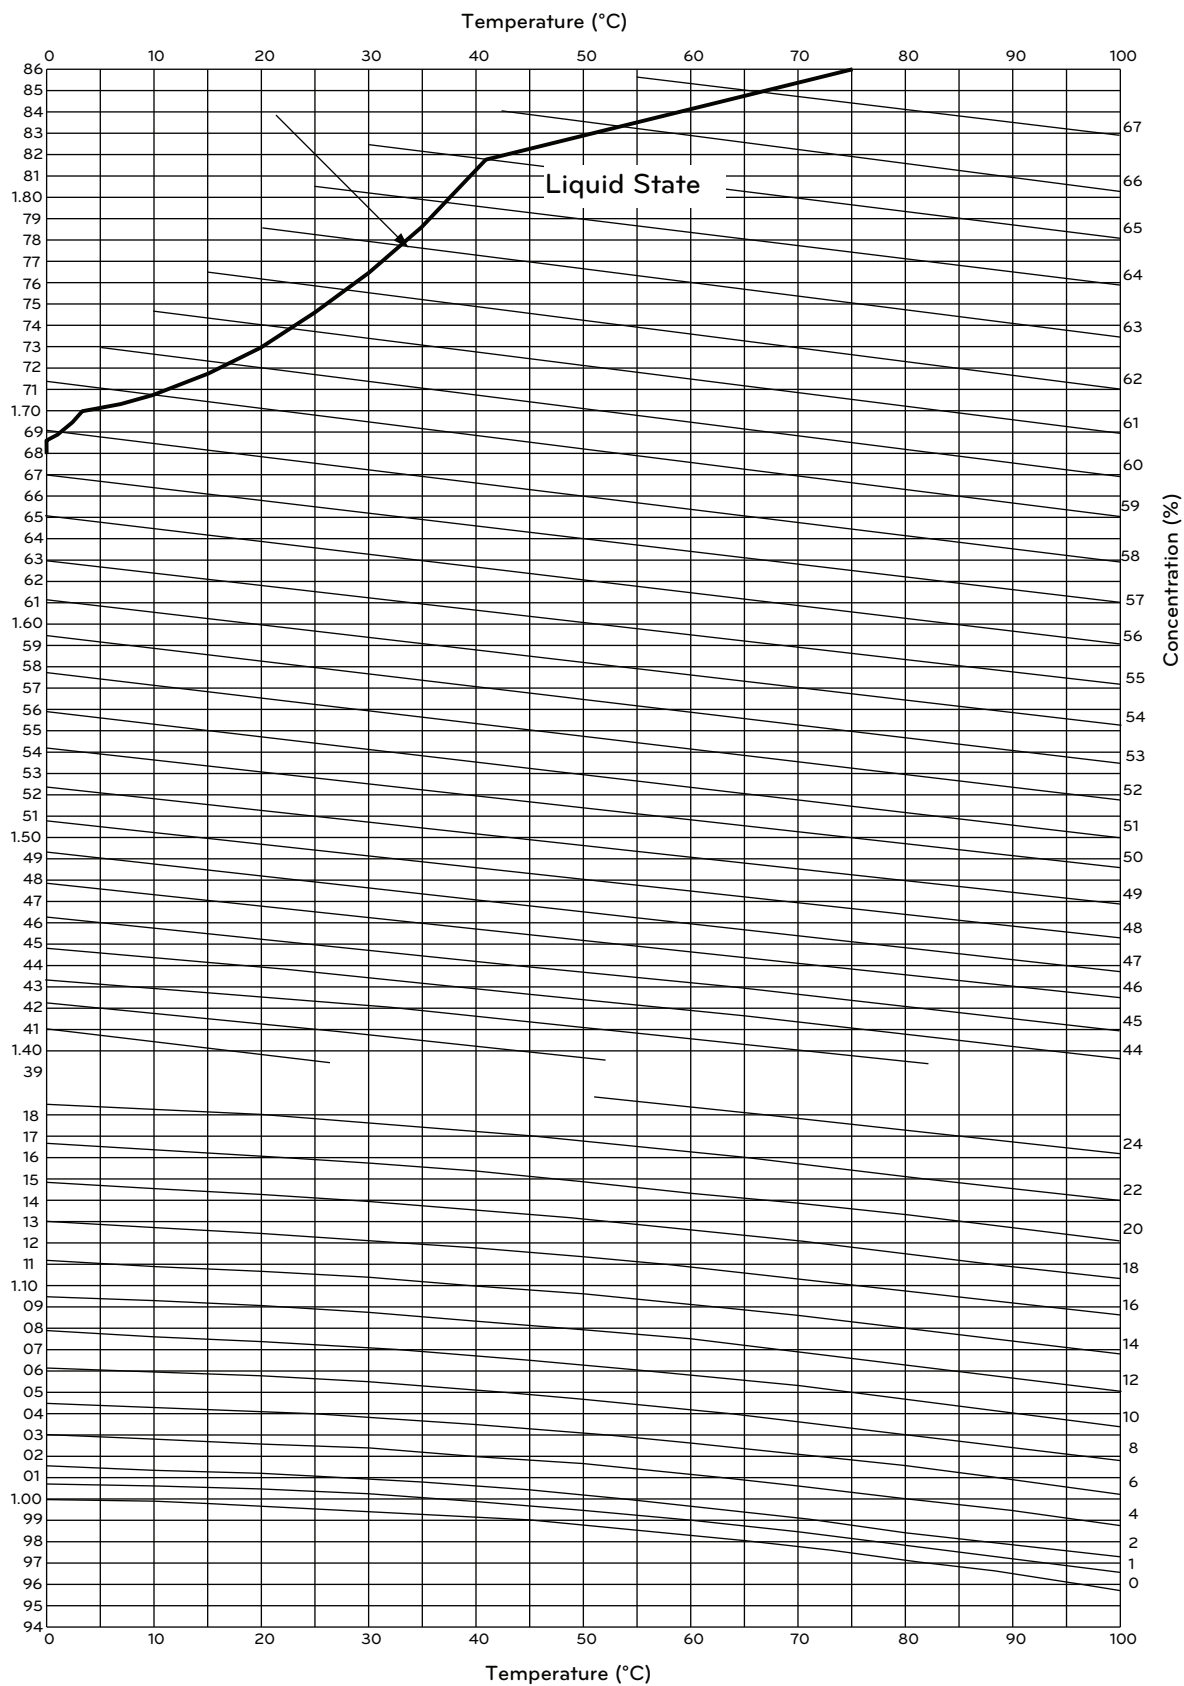

Figure 1-7. concentration curve of absorption solution `
Specific weight of a solution of 'Lithium Bromide' (about 60% concentration) is much greater than that of water(1.0). (about 1.7 times) specific weight is determined by liquid concentration and its concentration can be found from the figure 1-7 duhring diagram, by measuring temperature and specific weight of absorption solution.
4. Concentration curve of a solution of Lithium bromide (refer to the figure1-7)